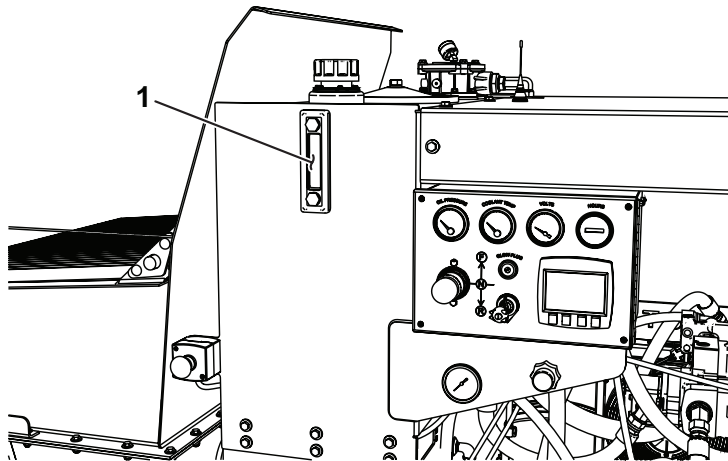

Figure 8 Hydraulic Temperature/level Indicator
- Continue to run the HP-20 at these settings until the hydraulic temperature/level indicator (Figure 8, Item 1) reaches a minimum of 80° F (27° C).